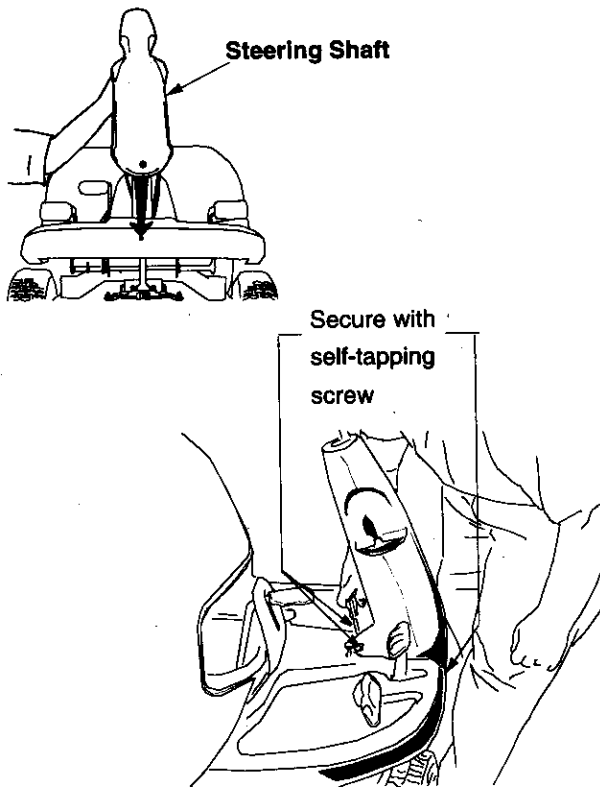

Figure 7
- Slide the steering shaft over the steering tube and secure with three self-tapping screws from the hardware pack. See Figure 7.